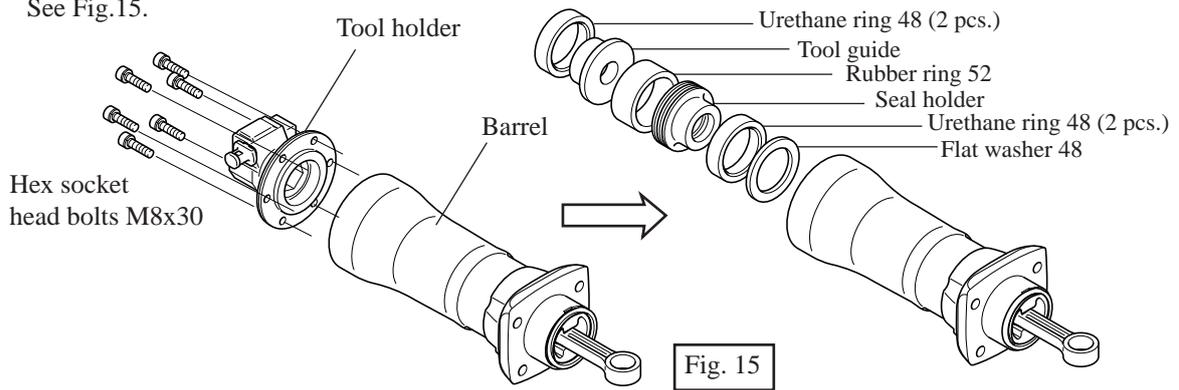

Fig. 15
- (1) Take off hex socket head bolts M8x30 and remove tool holder from barrel. And take off inner parts from barrel. See Fig.15.